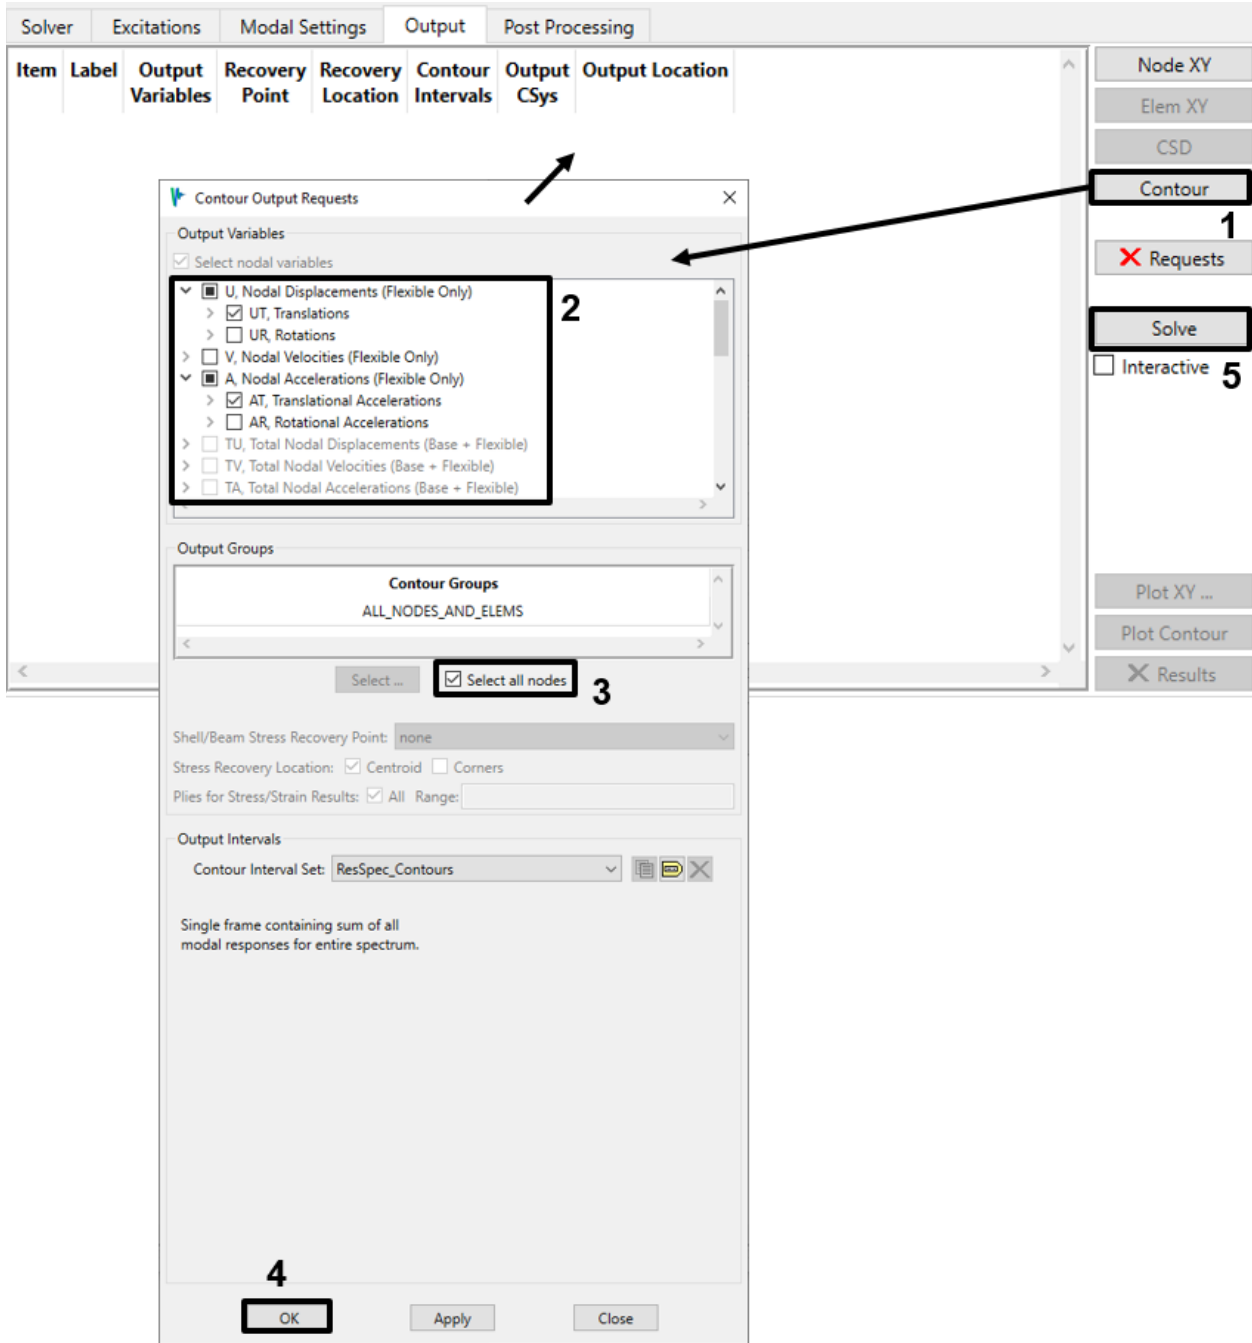

Figure 4-82. Request translational displacements and accelerations at all nodes.
- Go to the *Output* tab. Only contour output is available for response spectrum analysis, so create a contour request for displacement and acceleration (*UT, AT*) at all nodes (Figure 4-82). Note that the **Select nodal variables** toggle is checked and inactive; the normal modes solve did not request any elemental data. Solve the event but do not plot the contours at this time.